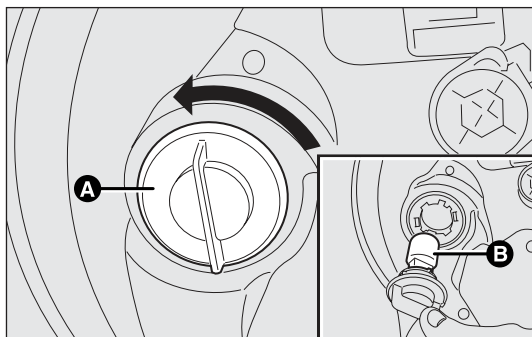

fig. 138
- turn the bulb holder A-fig. 138 anticlockwise using the tab and pull it out;